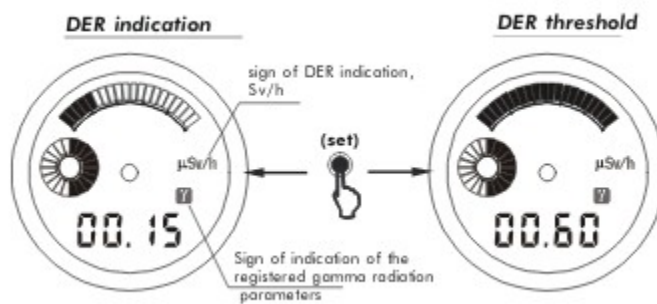

Fig. 2.5
Enter the DER indication as described in paragraph 2.4.1. Then press and release the “set” button (2) to display the preset threshold of DER ($\mu\text{Sv/h}$) and the filled in linear analogue scale on the LCD (Fig. 2.5). In approximately 5 seconds, the indicator will automatically return to the DER indication.